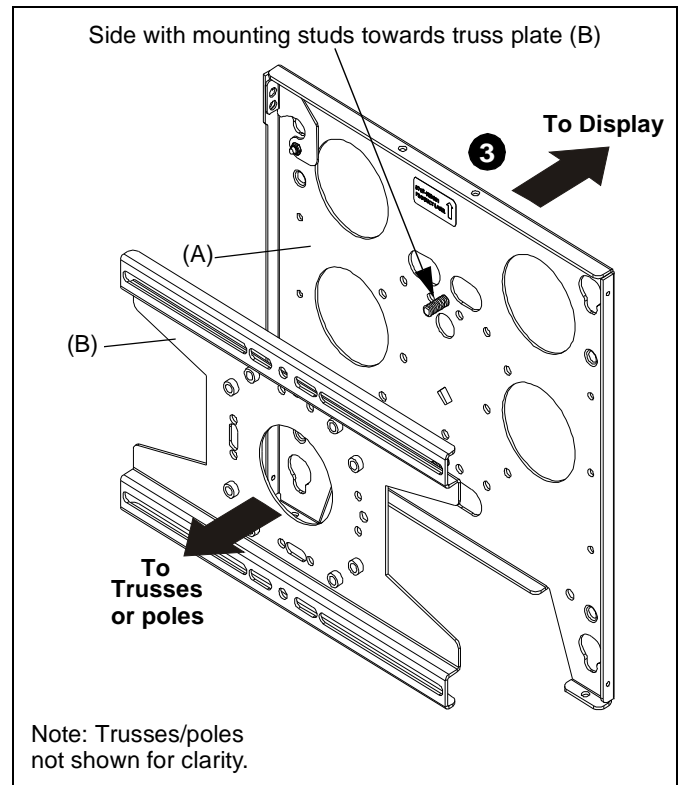

Figure 4
3. Position faceplate (A) in front of truss plate ensuring the mounting studs face the truss plate. (See Figure 4)